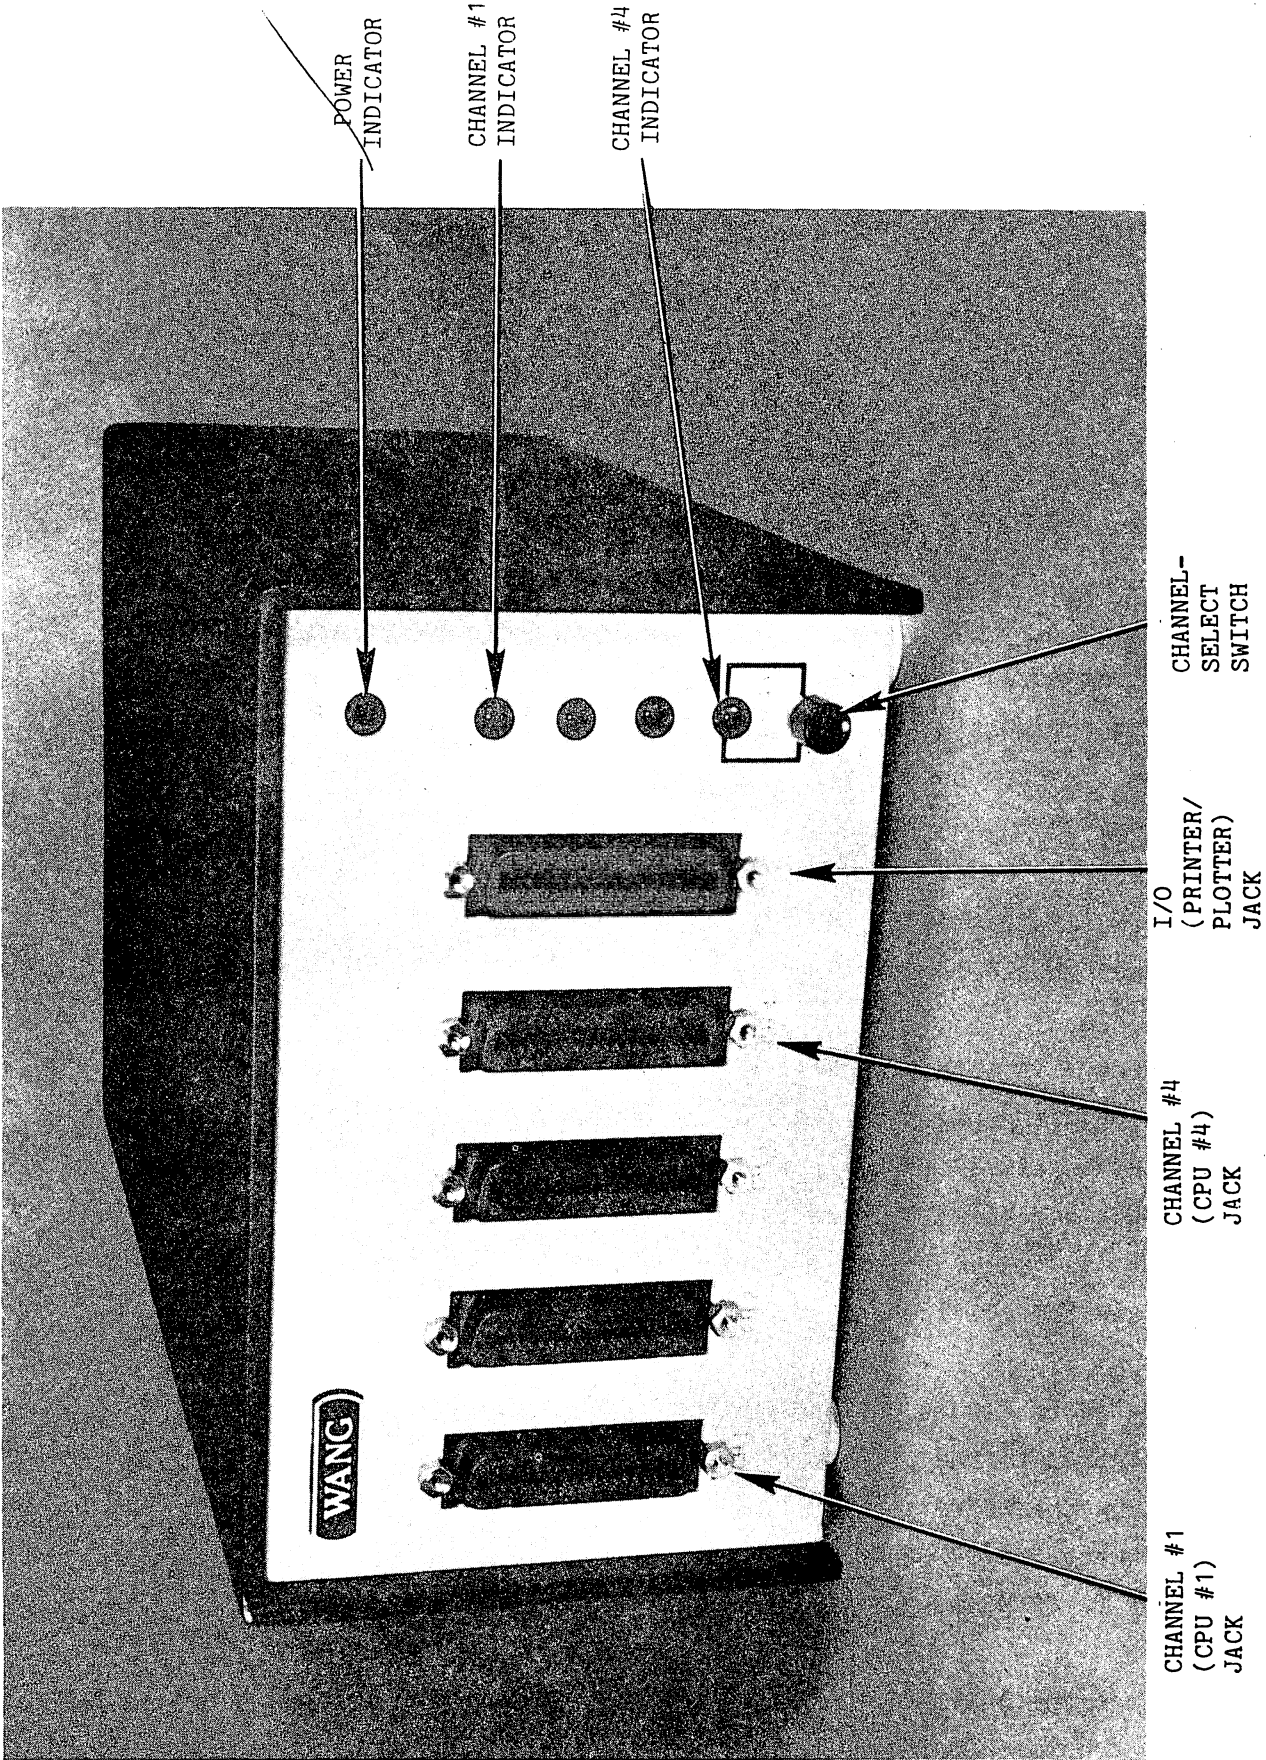
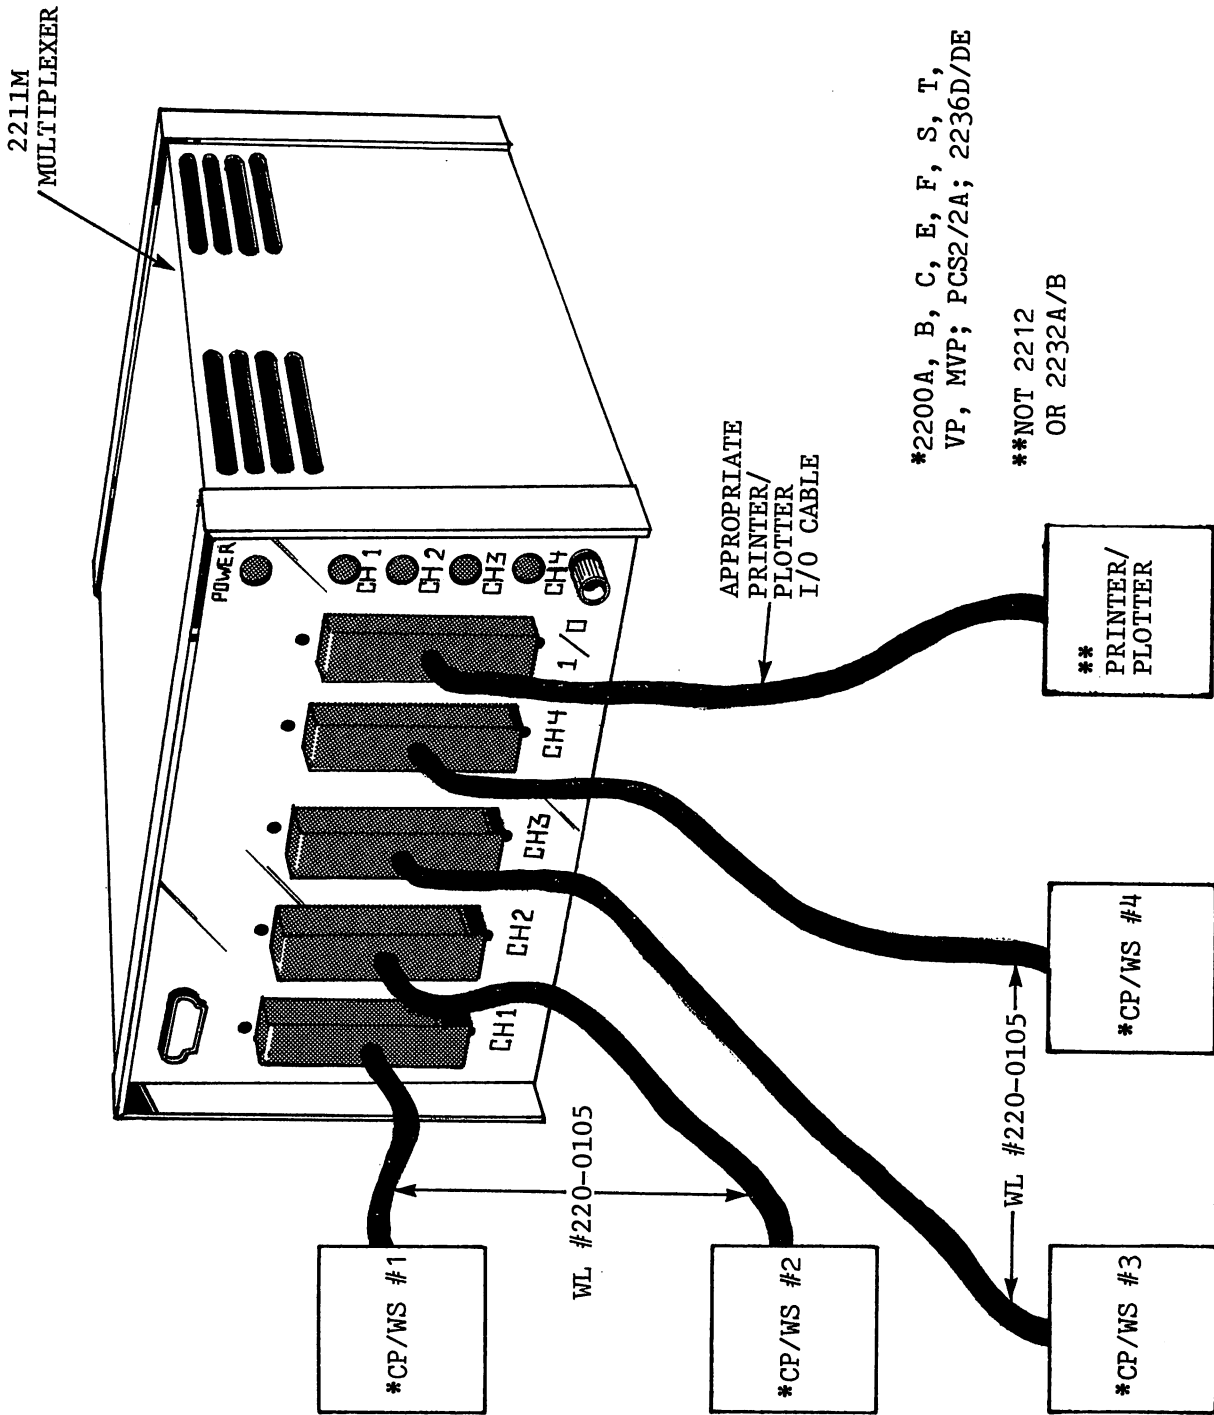

FIGURE 3-1 221M; FRONT VIEW
FIGURE 3-5 SYSTEM CONFIGURATION
- F. (Refer to FIGURE 3-1 and FIGURE 3-5.) Plug the I/O cable that is attached to the printer or plotter into the jack labeled "I/O". Using the CP/WS interconnection cables supplied (WL# 220-0105), connect the CP/WS designated #1 to the jack labeled "CH 1"; connect the #2 CP/WS to "CH 2", the #3 to "CH 3", and the #4 to "CH 4".